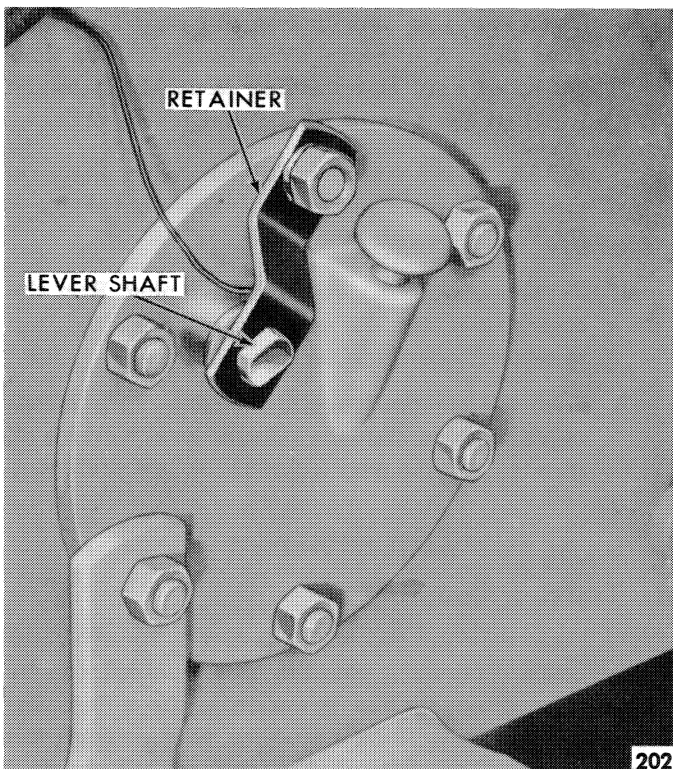

Figure 70—Traction Coupling Disengaged
The traction coupling sleeve is manually disengaged by turning the lever shaft, shown in Figure 70, clockwise to move the splined sleeve forward on the transmission output shaft and away from the pinion shaft. Engagement is made when the lever shaft is turned counterclockwise which brings the coupling sleeve rearward to connect with the splined pinion shaft.
1. To turn the lever shaft, the retainer which is held in place by the nut and washer as shown in Figure 70, must be removed.